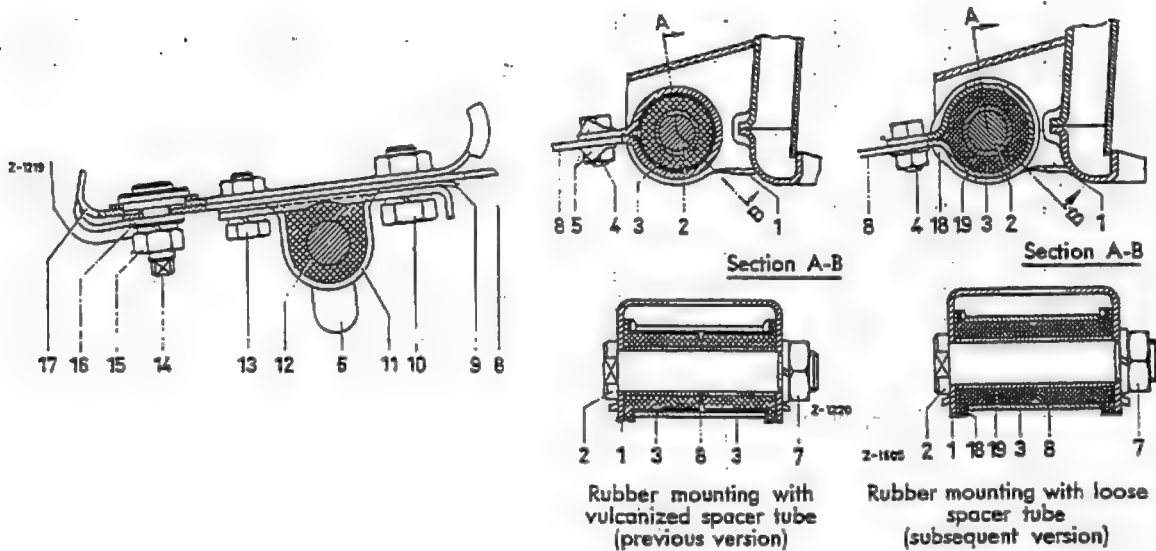

Fig. 33-3/2
8. Fasten the flat spring together with the torsion bar to the chassis base panel making sure that the locking plate (9) and the rubber mounting in the bracket (11) are correctly positioned (Fig. 33-3/2). For the prescribed torque see Job No. 33-0.
9. Tighten the two hexagon screws (clamping screws) (4) with the prescribed torque (see Job No. 33-0) (Fig. 33-3/2).
b) On recent cars the clamping screws are no longer secured by means of locking plates, but by lock washers (Fig. 33-3/2).
10. Tighten the hexagon nut (7) for the bolt (2) on the front axle support (for prescribed torque see Job No. 33-0).